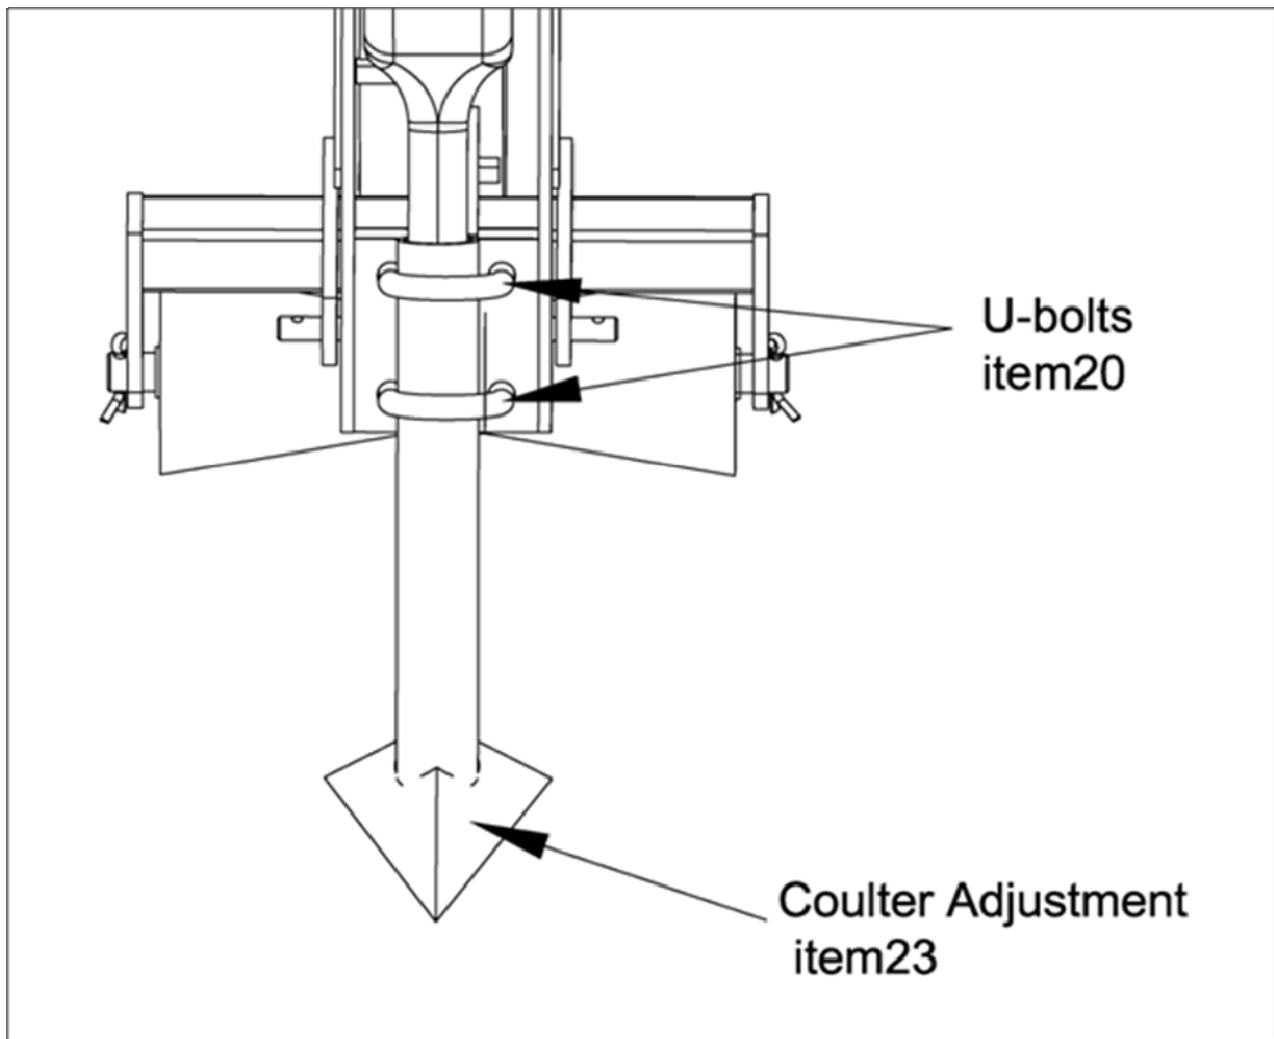

Figure 13
5. If the depth of planter cannot be achieved because the wheel brackets, item 66, contact item 90 hex bolt mount, the coultter assembly will have to be moved down.
6. To move coultter assembly down raise planter off of flat surface, loosen the u-Bolts item 20 and lower coultter assembly down. Retighten U-bolts. See figure 13. Repeat steps 1 through 4 again.